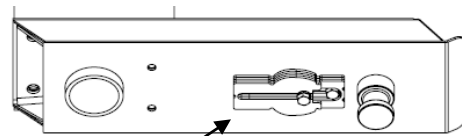

Figure 21
3. Install the universal wedge into the position for Sidewinder™ feature activation (figure 21) , in the proper orientation for your fifth wheel. The bolts will not be fully tightened at this time. (figure 21) Only tighten the (2) 5/8-11 X 1 3/4" wedge bolts until the lock washers begin to engage. The wedge should be allowed to slide with the rap of a hammer or mallet.